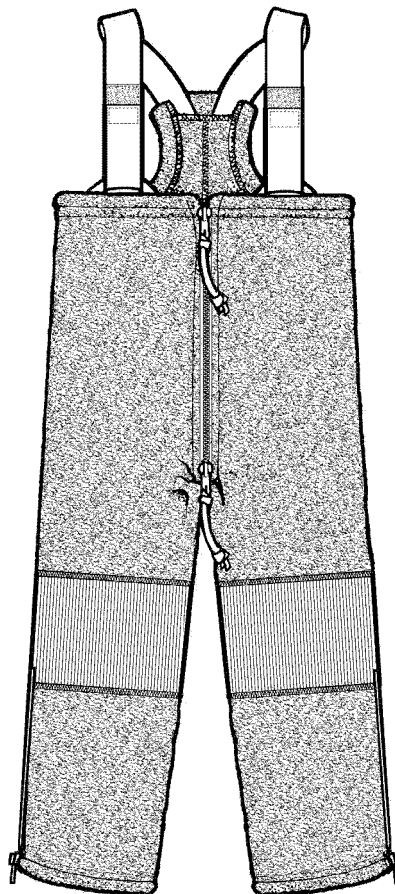

Figure 3-45. Overall
4. The **overalls** (figure 3-45) was developed to be worn over the flight suit and underneath the shell pant to provide insulation to aircrew on helicopters or in the back of patrol and cargo fixed wing aircraft who work in an environment with very little, if any, capability to provide heat. The design enables the overall to be put on while wearing boots, and has a suspender that adjusts with Velcro in order to avoid hardware that could press into the body and create a hot spot. Aircrews that wear a torso harness will not use this item. The overall is made from the same double weight velour as the heavyweight garments.